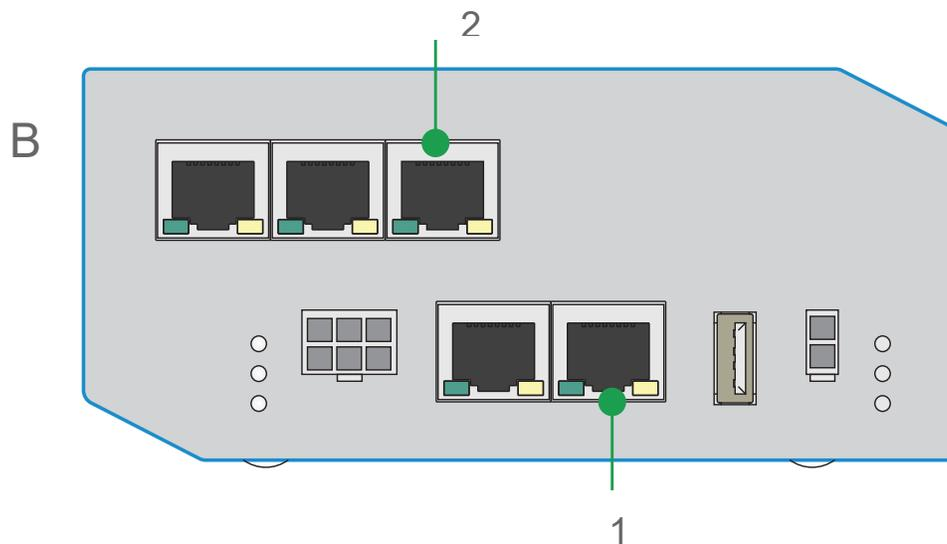

Figure 22: Connecting the VPN-router, case B
- B:** Stem devices (2) and customers router (1) in two different networks (refer to Figure 22 below).